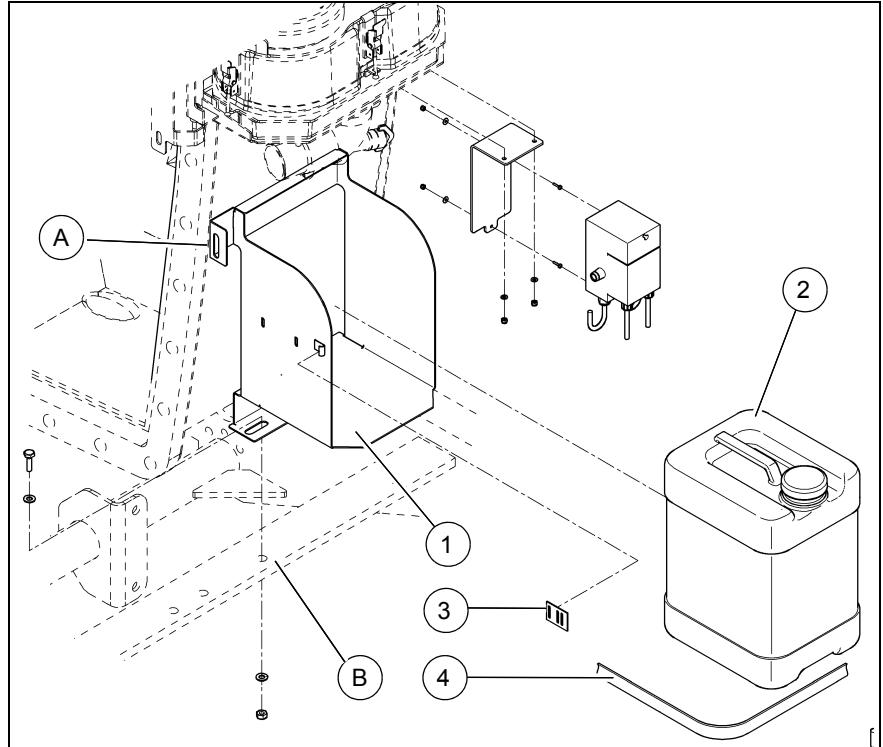

Fig.2
1. Mount the holder (Fig. 2/1) of the canister (Fig. 2/2) on the hopper position (A) using the existing bolts from the hopper.
2. Mount the holder (Fig. 2/1) on the frame position (B) using hexagon bolts, nuts and washers.
3. Mount the cable clip (Fig. 2/3) on the tensioning strap (Fig. 2/4).
4. Insert the canister (Fig. 2/2) and fix in place with the tensioning strap (Fig. 2/4).